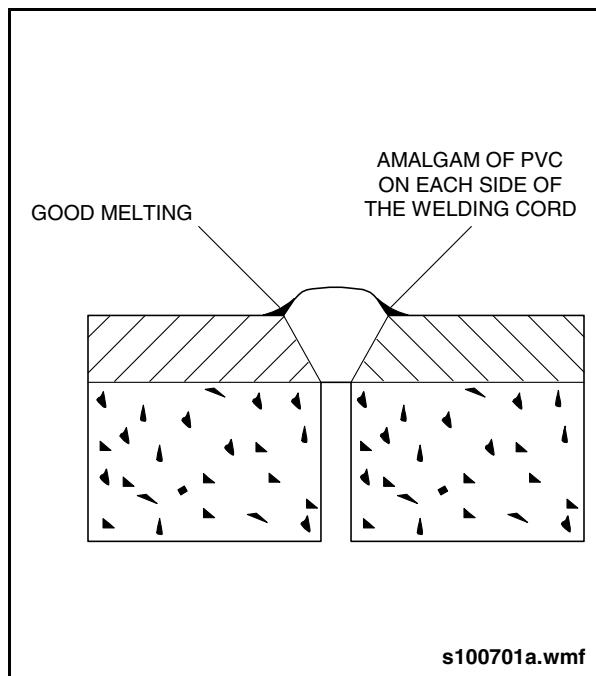

Fig. 12-12: Correct Floor Weld
*Maintain a constant rate of welding (weld speed should be 1.3 seconds per inch). A good floor weld is achieved using a combination of suitable heat and correct speed of travel with the heat gun. See "Fig. 12-12: Correct Floor Weld" on page 19.*